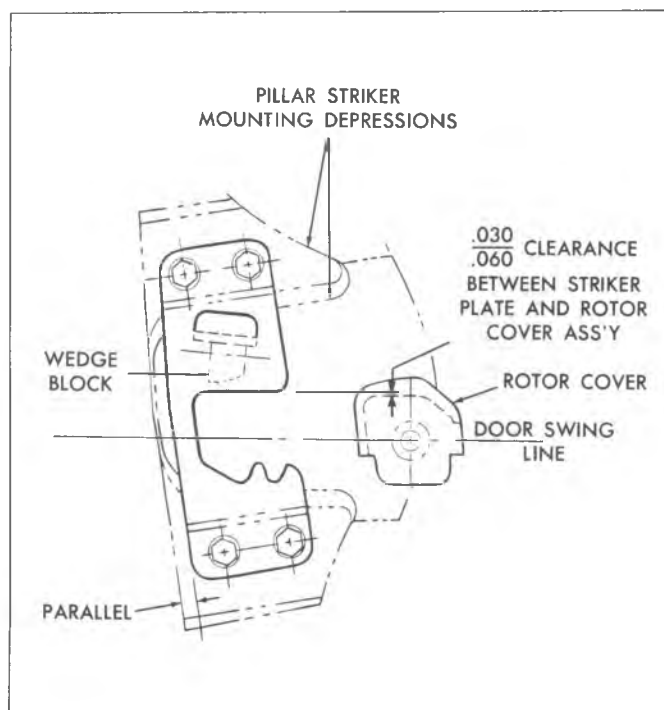

Fig. 44—Lock Rotor Cover Assembly and Striker Plate
2. Vertical slots are provided in the body lock pillar to vertically position the striker so that the lock rotor and rotor cover assembly swing smoothly into the opening between the teeth and striker wedge block (fig. 44).